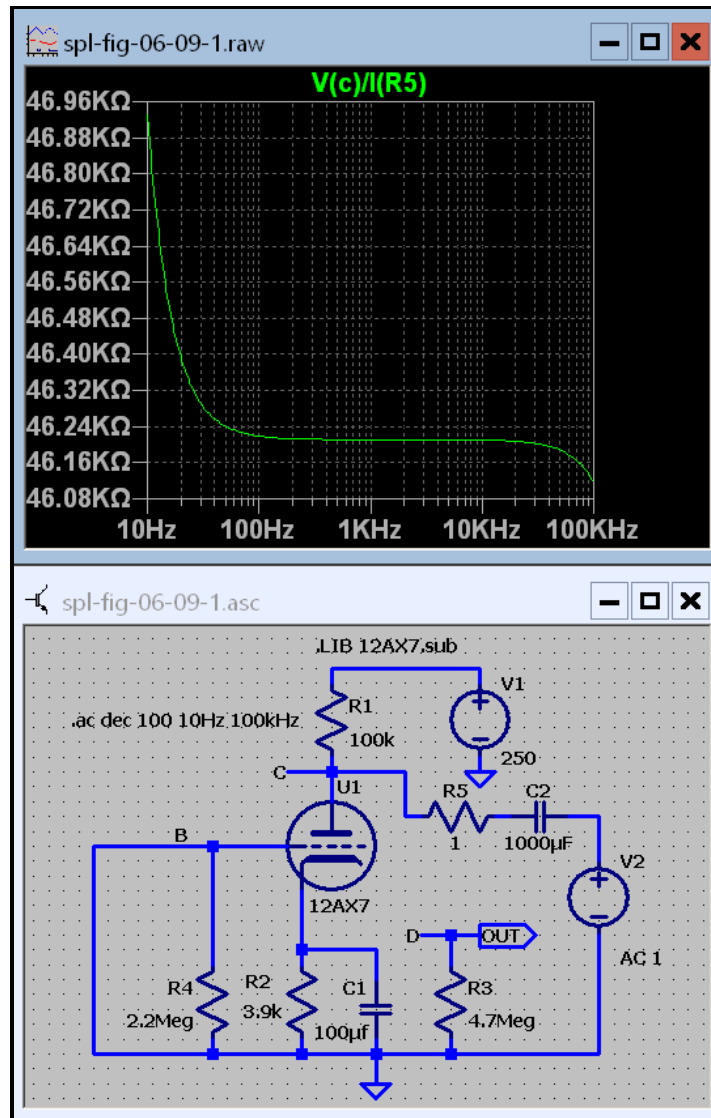

Figure 6.9.1 Output impedance of the single triode circuit. The worst.
2. Now add a voltage generator on the right as shown in figure 6.9.1.
9. In the graph window alt-right click on V(C) or V(A) in green at the top of the window.